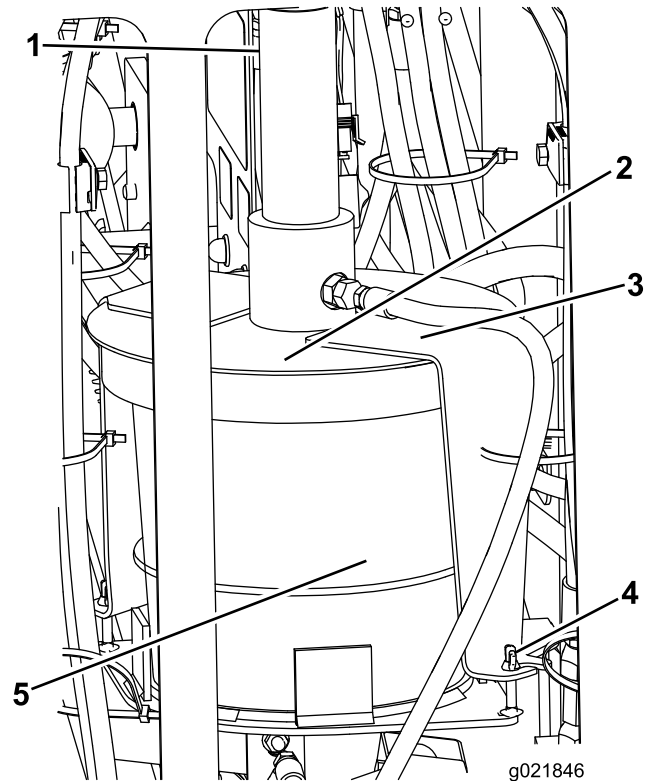

Figure 56
3. Loosen the wing nuts securing the cover straps to the machine (Figure 56).
4. Rotate the cover and pull the cover straps off the retaining bolts (Figure 56).
5. Lift the cover assembly off and out of the empty thread-joint-compound bucket (Figure 56).
7. Place the plunger into the new bucket and lower the cover assembly onto the bucket (Figure 56).
8. Slide the cover straps over the retaining bolts and rotate the cover to seat the straps on the bolts (Figure 56).